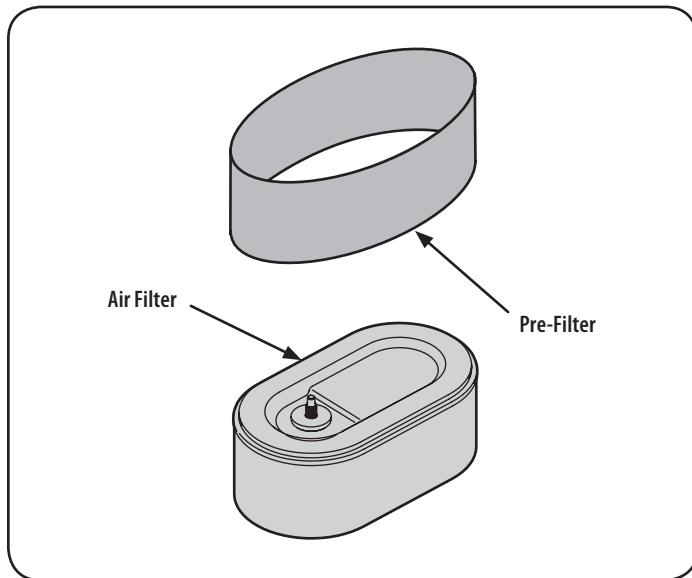

Figure 9
4. Remove the foam pre-filter from around the paper air filter. See "Figure 9". Replace paper element when dirty or damaged. Clean foam element or replace when damaged.